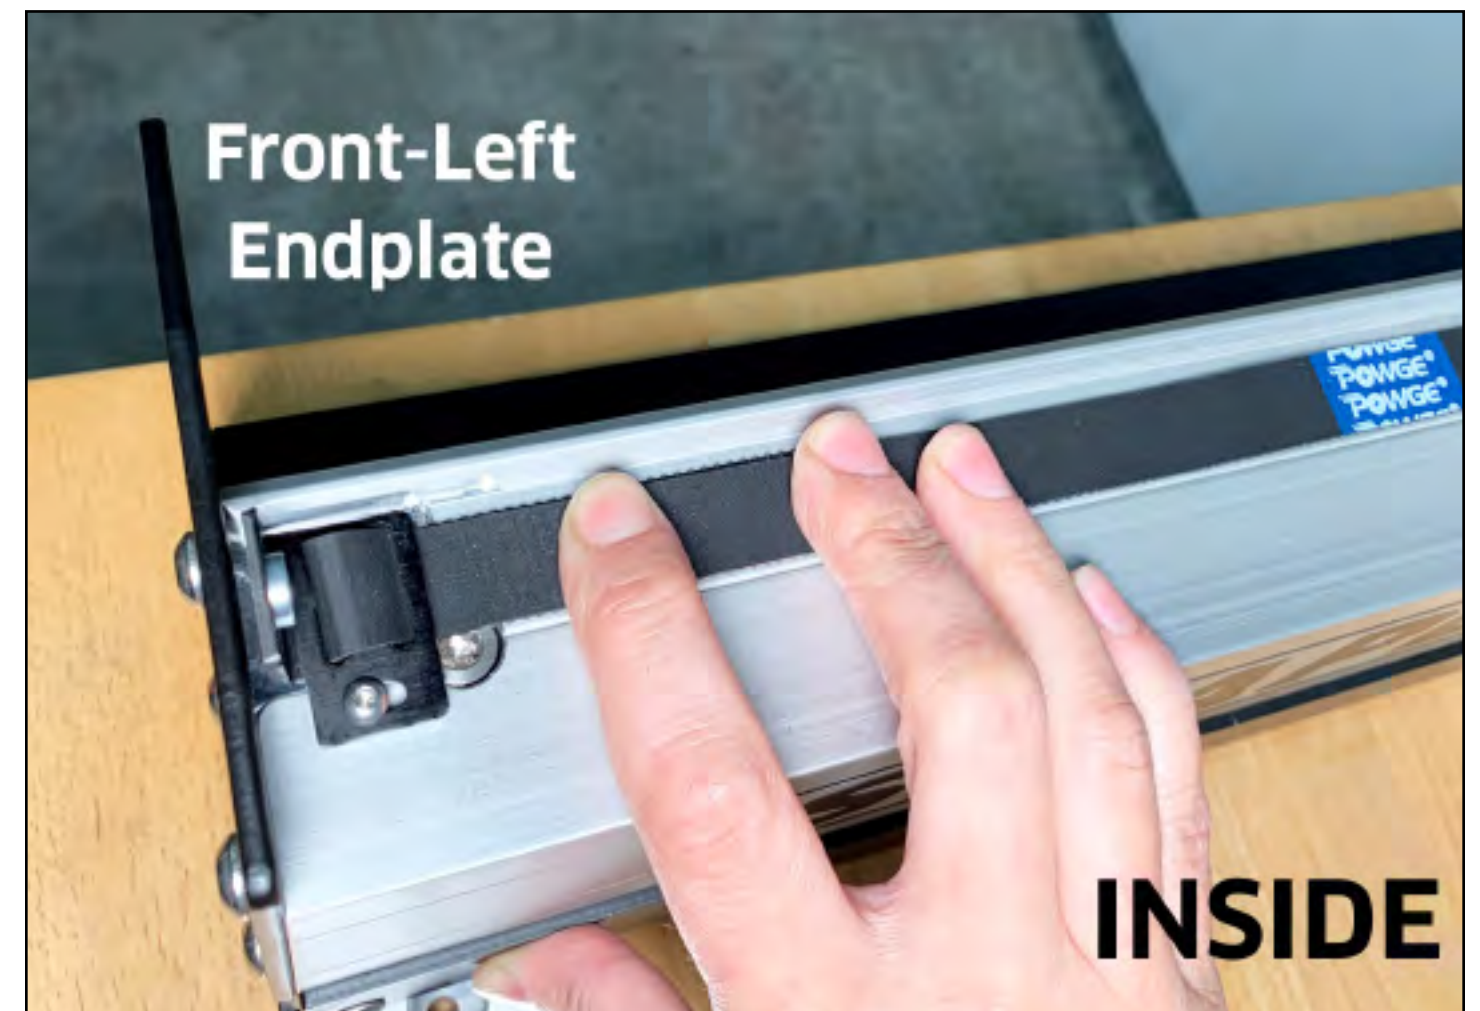

Figure 5-15
2. Place the belt clip on the Y-Left rail at the front-left endplate. See **Fig. 5-15**.
3. Use a 2.5mm hex key and one (1) M3×6mm BHCS to **LOOSELY** secure the belt clip to the threaded M3 hole in the top of the rail. See **Fig. 5-15**.
4. Use a 4mm hex key and one (1) M5×12mm SHCS to secure the clip to the front-left endplate. Fully tighten.